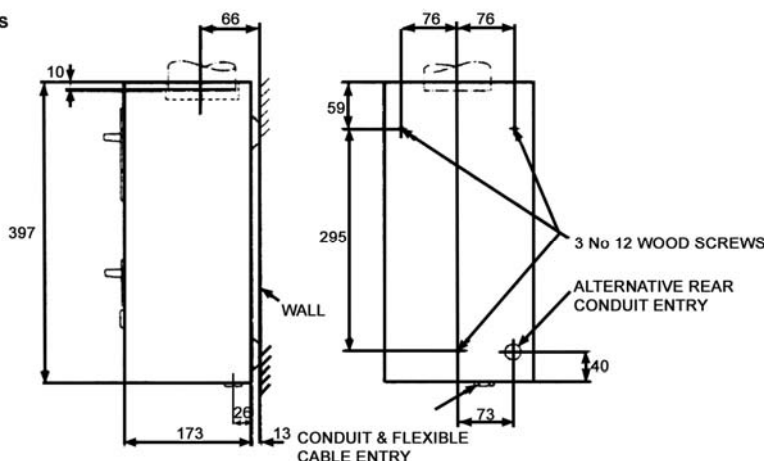

Fig 1
The incinerator should be positioned with the top of the unit 1.22 m from floor level and secured by three No 12 wood screws. Keyhole slots are provided in the fixing lugs. Dimensions of the fixing points are given in Fig 1.
To allow the unit to be removed or to be installed when the flue is already in position, a clearance of 9.5 mm must be left between the lower end of the flue and the top of the incinerator so that the unit can be raised sufficiently above its normal position to allow the fixing screw heads to come out of the keyhole slots in the fixing lugs. Dimensions given in Fig 1 allow an appropriate clearance between the bottom of the flue and the top of the unit. To fix the unit, insert the screws so that the heads are about 6 mm from the wall. Suspend the unit by means of lugs provided on the three wall fixing screws. During this operation the flue should be inserted into the socket of the incinerator. When in position tighten the screws firmly. When installed, the incinerator will stand away from the wall leaving a 13 mm gap. This gap must not be obstructed as it is for ventilation purposes.
- An entry is provided at the rear of the unit for connection of 20 mm conduit or a small BESA box mounted in the wall behind the unit. An alternative 20 mm conduit entry and a cable clamp for connection by flexible cable are also provided in the base of the unit. These positions are shown in Fig 1.